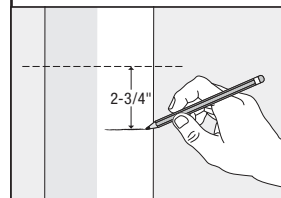

Fig. 11
1. Place a mark 2-3/4" below the handrail layout line to establish placement of the inside corner bracket (Fig. 11).